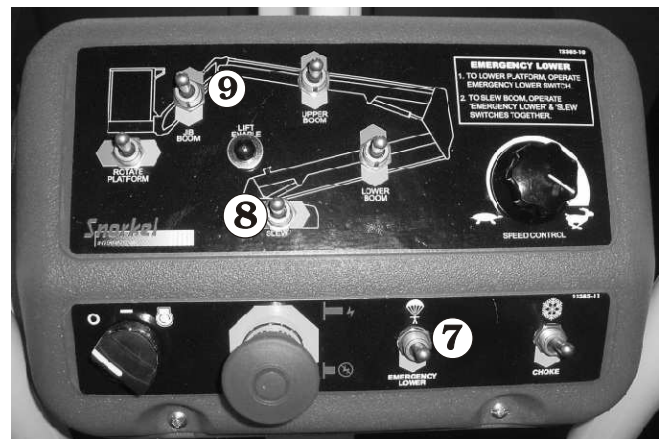

Figure 9.4
7. Hold the **Emergency Lower** switch ⑦ (see Figure 9.4) down and the platform will begin lowering.
8. To lower the jib boom, operate the **Emergency Lower** switch ⑦ and the **Jib Boom Lower** ⑨ switches together (see Figure 9.4).
9. To slew the boom, operate the **Emergency Lower** ⑦ and **Slew** ⑧ switches together (see Figure 9.4).